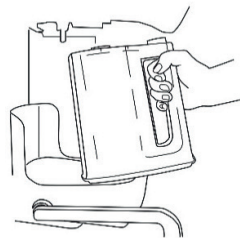

Figure 2
1. Slide the absorber canister on the lifter dish (see Figure 2).